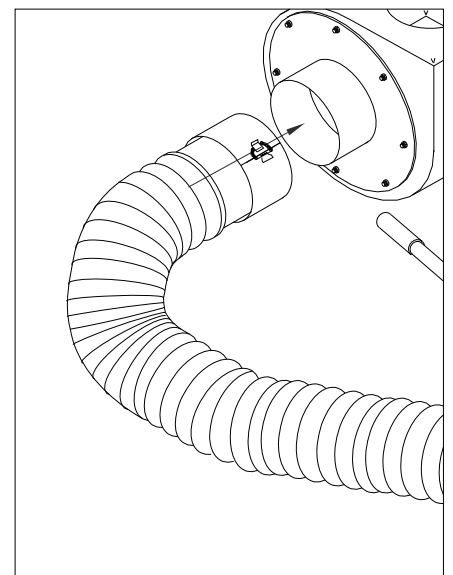

Fig. 9
8. Slip hose clamps over each end of remote hose (42). Attach nozzle assembly to one end and quick connect to opposite end. Tighten clamps. Attach assembly to inlet (8) **Fig. 9**